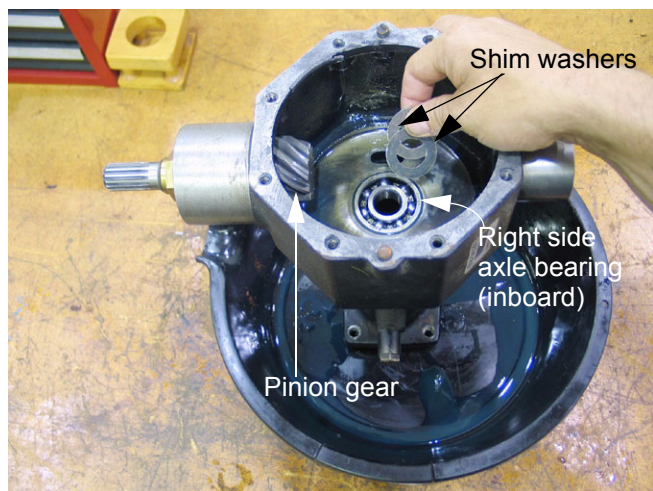

Figure 9.13
- 9.13. Beneath the differential housing are shim washers, between the right side differential bearing and the right side inner axle bearing. See Figure 9.13.